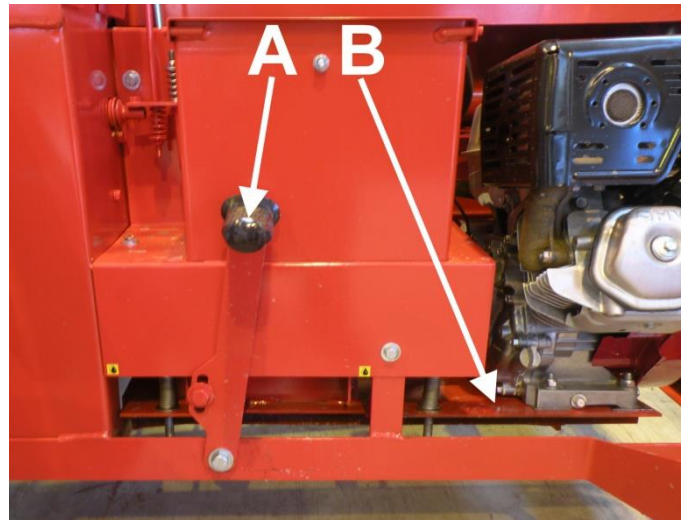

Figure 20.
1. Use winch A to turn the engine bed B up as shown in Figure 20. This allows the belts of the main shaft to loosen, and the engine can start without undue loading.